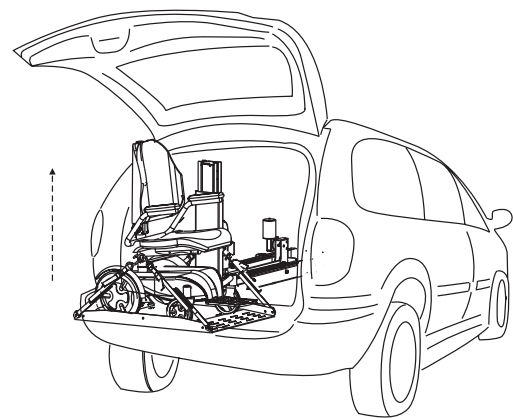

Figure 3-4
4. Raise the Chair. Double-check that the chair is secured properly on the platform. While holding the hand control, stand to the side and away from the lift. Press the "UP" button. [Figure 3-4]